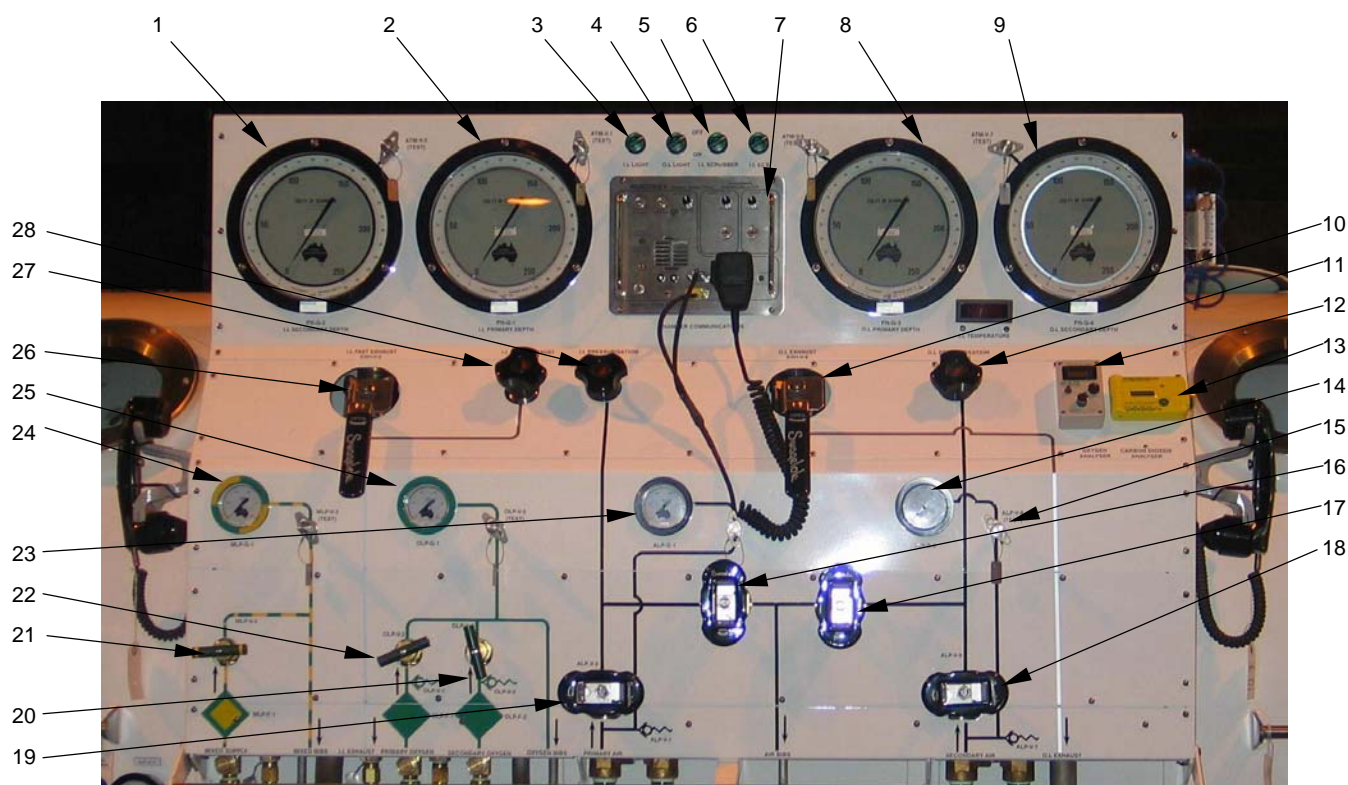

Figure 3-12. Chamber Control Console
3-2.5 CHAMBER CONTROL CONSOLE. The Chamber Control Console (Figure 3-12) monitors and controls the air supply and air quality in both the inner lock (IL) and outer lock (OL) of the recompression chamber.
3-2.5.1 Inner and Outer Lock Depth Gauges. Each gauge indicates the depth in feet of seawater corresponding to the pressure of the inner and outer locks of the recompression chamber. In Figure 3-12, items 1 and 2 are the Inner Lock (IL) Secondary and Primary Depth Gauges, PN-G-2 and PN-G-1, and items 8 and 9 are the Outer Lock (OL) Primary and Secondary Depth Gauges, PN-G-3 and PN-G-4.
3-2.5.2 IL and OL Light Switches. Each switch (Figure 3-12, items 3 and 4) controls the 110-volt fluorescent lights located over the inner and outer chamber viewports.
3-2.5.3 IL Carbon Dioxide (CO₂) Scrubber Switch. This switch (Figure 3-12, item 5) controls 24-volt dc power to the circulating fan for the carbon dioxide scrubber.
3-2.5.4 IL Environmental Control System (ECS) Switch. This switch (Figure 3-12, item 6) controls 24-volt dc power to the circulating fan for the ECS heat exchanger.
3-2.5.5 Chamber Communications Panel. This panel (Figure 3-12, item 7) controls the electronic communication system to allow voice communication with the personnel inside the chamber. A sound-powered backup phone is provided and is located on either end of the chamber control console.
3-2.5.6 IL and OL Fast Exhaust Valves. These quarter-turn ball valves are used to rapidly release the pressure from the IL and/or the OL to atmosphere via the chamber vent manifold piping. In Figure 3-12, item 26 (EXH-V-5) is the IL Fast Exhaust Valve and item 10 (EXH-V-8) is the OL Fast Exhaust Valve.
3-2.5.7 IL and OL Low-Pressure (LP) Air Pressurization Valves. These 1/2" double seat valves are used to pressurize the IL and OL depth by supplying LP compressed air from the air supply reducers. In Figure 3-12, item 28 (ALP-V-5) is the IL LP Air Pressurization Valve and item 11 (ALP-V-13) is the OL LP Air Pressurization Valve.
3-2.5.8 Oxygen (O₂) Analyzer. This device (Figure 3-12, item 12), when connected to the air sampling system, is used to monitor the amount of oxygen in the inner lock, outer lock, breathing air supply, oxygen supply, or mixed gas supply piping.
3-2.5.9 CO₂ Analyzer. This device (Figure 3-12, item 13), when connected to the air sampling system, is used to monitor the amount of CO₂ that is present in the IL, OL, breathing air supply, O₂ supply, or mixed gas supply piping.
3-2.5.10 Primary and Secondary LP Air Supply Gauges. These gauges indicate the pressures of the LP air supplied from the primary and secondary high-pressure (HP) air regulators. This air is used as a supply to the LP air BIBS manifolds in the inner and outer locks and as a pressurization source for the inner and outer locks. In Figure 3-12, item 23 (ALP-G-1) is the Primary LP Air Supply Gauge and item 14 (ALP-G-2) is the Secondary LP Air Supply Gauge.
3-2.5.11 Chamber Control Console Gauge Valves. The gauge valves are mounted in the supply piping to each gauge in the system. These valves are designed to act as isolation valves or as a test fitting to allow for testing the gauge in place. In Figure 3-12, item 15, the Secondary LP Air Supply Gauge Valve (ALP-V-8), is a representative example. See Figure 2-1 for the names and locations of all Chamber Control Console gauge valves.
3-2.5.12 Primary and Secondary LP Air Cross Connect Valves. These 1/2" ball valves control the primary and secondary LP air supplies to the air BIBS manifolds in the inner and outer locks. They also provide primary air to OL pressurization and/or secondary air to IL pressurization. In Figure 3-12, item 17 (ALP-V-4) is the Primary LP Air Cross Connect Valve and item 16 (ALP-V-10) is the Secondary LP Air Cross Connect Valve.
3-2.5.13 Primary and Secondary LP Air Shutoff Valves. These 1/2" ball valves control the primary and secondary LP air supplies to the chamber from the HP air reducers. In Figure 3-12, item 19 (ALP-V-3) is the Primary LP Air Shutoff Valve and item 18 (ALP-V-9) is the Secondary LP Air Shutoff Valve.
3-2.5.14 Primary and Secondary O₂ Supply Valves. These needle valves control the pressure of the oxygen supplied to the oxygen BIBS manifold. In Figure 3-12, item 22 (OLP-V-2) is the Primary O₂ Supply Valve and item 20 (OLP-V-4) is the Secondary O₂ Supply Valve.
3-2.5.15 LP Mixed Gas Shutoff Valve. This needle valve controls the pressure of the mixed gas supplied to the mixed gas BIBS manifold. In Figure 3-12, item 21 (MLP-V-2) is the LP Mixed Gas Shutoff Valve.
3-2.5.16 LP Mixed Gas Pressure Gauge. This gauge indicates the pressure of the mixed gas supply pressure to the mixed gas BIBS manifold in the inner lock. In Figure 3-12, item 24 (MLP-G-1) is the LP Mixed Gas Pressure Gauge.
3-2.5.17 LP O₂ Supply Gauge. This gauge indicates the pressure of the oxygen gas supply pressure to the oxygen BIBS manifold in the inner lock. In Figure 3-12, item 25 (OLP-G-1) is the LP O₂ Supply Gauge.
3-2.5.18 IL Slow Exhaust Valve. This 1/2" double seat valve is used to decrease the IL depth by venting the IL pressure to atmosphere via the chamber vent manifold piping. In Figure 3-12, item 27 (EXH-V-6) is the IL Slow Exhaust Valve.